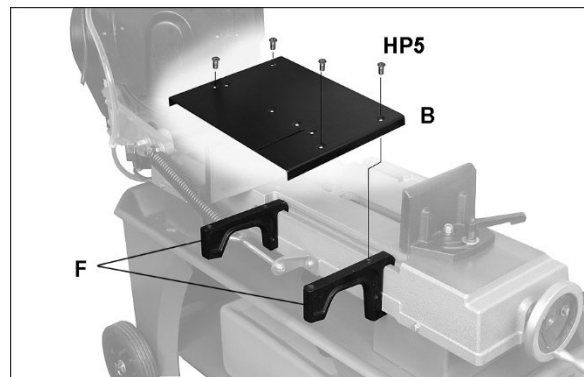

Figure 6-9: installing infeed table (712DV only)
- The table plate (B, Figure 6-9) may be used as cutting table in vertical mode (models 712V and 712DV), or may be used as infeed table in horizontal mode (**712DV only**). To use as infeed table for model 712DV, place supports (F) on channel of saw bed as shown, and install plate with flat head screws (HP5).